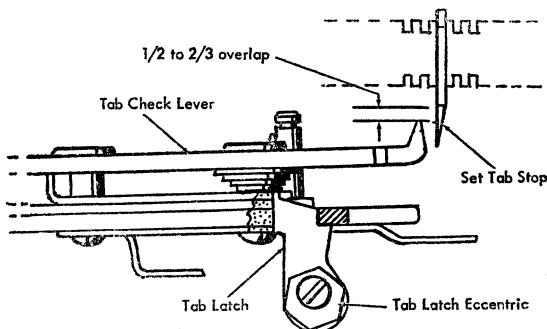

Figure 23. Tab Latch Adjustment
5. TAB LATCH. Adjust by positioning the eccentric mounting-stud so that the tab-check lever engages $\frac{1}{2}$ to $\frac{2}{3}$ of the exposed surface of a set tab stop when the tab lever is latched. The high side of the eccentric must be kept in the left half of its orbit (Figure 23).